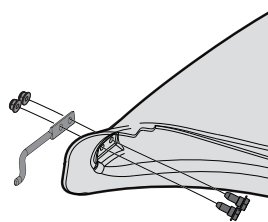

Figure 14
- From the inside of the boot, put the two hex head screws (738-1225) from hardware pack 689-02199 through the holes at the bottom front of the boot. See Figure 14.
- Put the mounting rod (747-06309) from hardware pack 689-02199 in place over the hex head screws. Make sure the top of the rod is facing out from the boot. See Figure 14.
- Begin threading the flange lock nuts (712-04064) from hardware pack 689-02199 onto the hex head screws. See Figure 14.